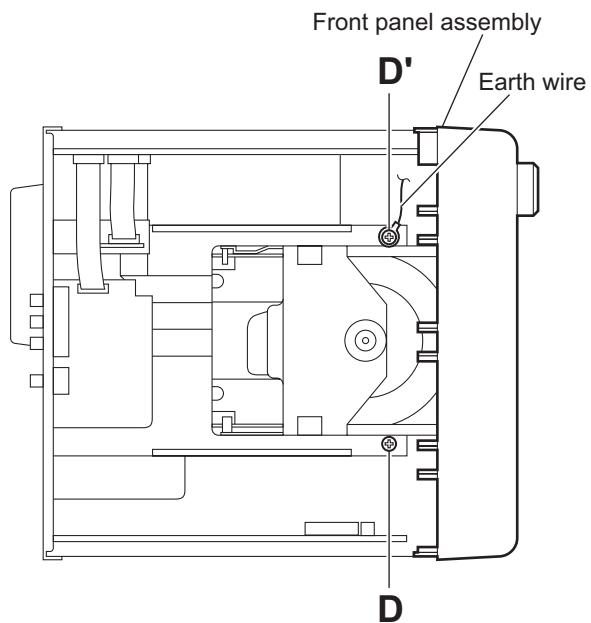

Fig.6
- (8) From the top side of the main body, remove the screw **D** and screw **D'** attach the front panel assembly to the main body. (See Fig.6.)
When attaching the screw **D'**, attach the earth wire with it. (See Fig.6.)